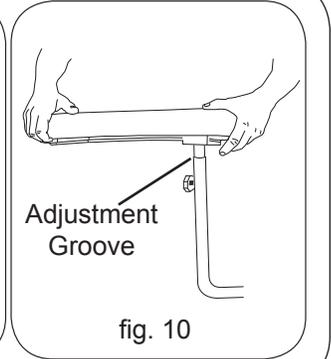

fig. 10
12. Slowly tighten the hand knob to ensure that end of threaded portion aligns with the adjustment groove (fig. 10).